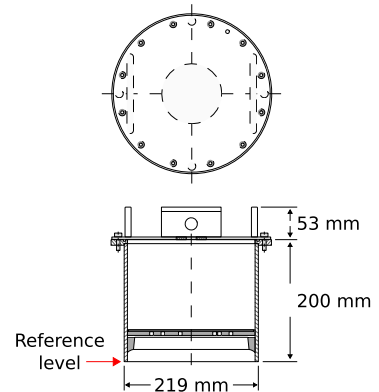

Figure 1.2: The reference level for mounting height measurement.
- The reference level for the mounting height of the radar is shown in Fig. 1.2.